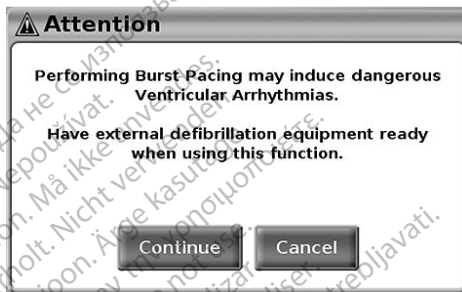

Figure 18. PSA Burst Pacing Warning message
4. A warning displays indicating burst pacing will be activated (Figure 18 on page 27).